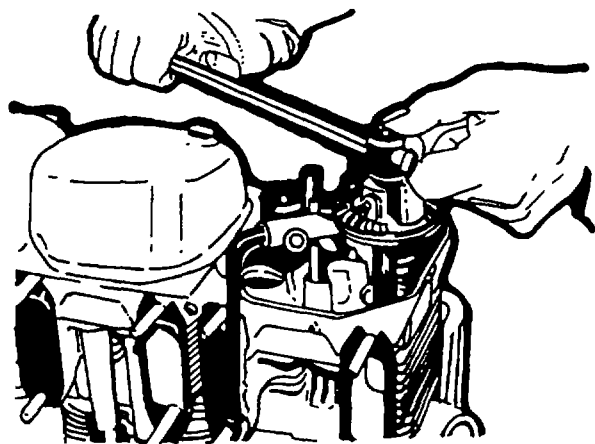

Figure 4-29. Tightening Cylinder Head Bolts with Tool 003-0500
3. Preload bolts by above wrench through 22 lb-ft (30 Nm) (see tightening procedure, table F-1) and tighten through one stage (45 degrees) with the aid of device No. 003-0500 (figure 4-29).